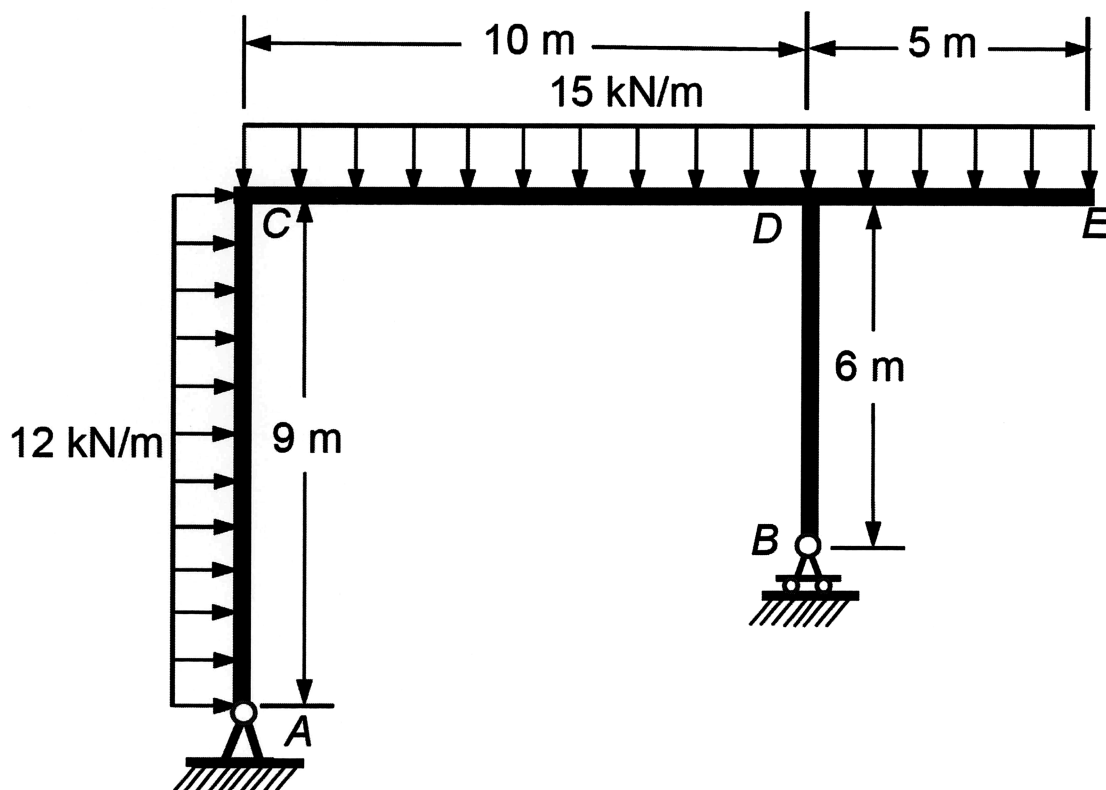

Figure Q2
2. The frame ABCDE shown in Figure Q2 is pin supported at A and roller supported at B. One uniformly distributed load of 15 kN/m is applied at the section CDE. One uniformly horizontal distributed load of 12 kN/m is applied at the section AC.